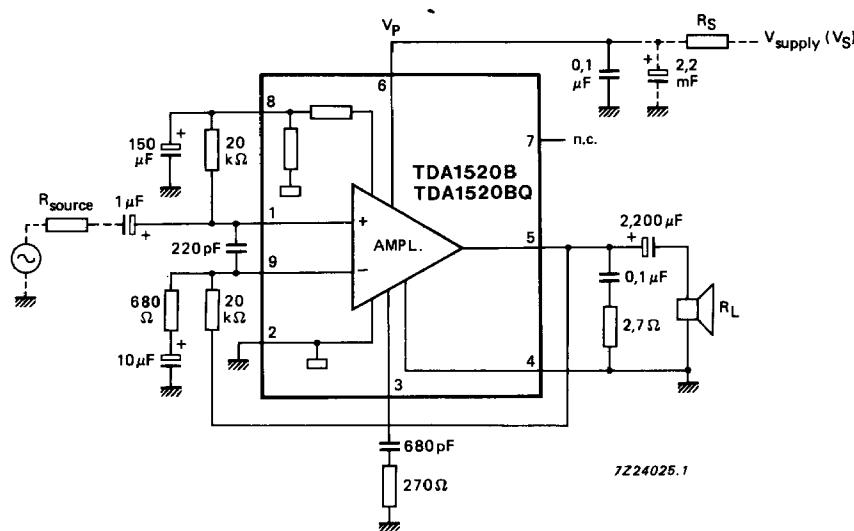

Fig. 6 Test and application diagram.
1. All values measured from test circuit Fig.6; V_P = 33 V; R_L = 4 Ω; f = 1 kHz; T_{amb} = 25 °C; unless otherwise specified.
$V_p = 33 \text{ V}$; $R_L = 4 \Omega$; $f = 1 \text{ kHz}$; $T_{\text{amb}} = 25^\circ\text{C}$; unless otherwise specified; measured from test circuit, Fig. 6.